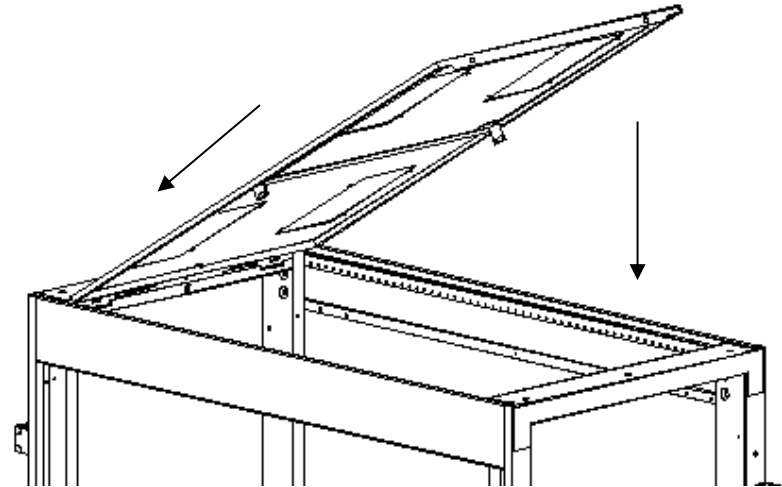

Fig. 1
1. Position Top Panel Assembly over cabinet as shown in Fig.1. Lift rear of Top Panel and slide forward to engage front of cabinet.